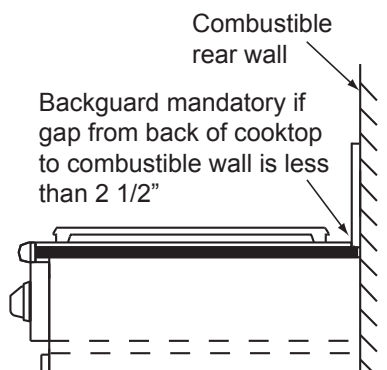

FIGURE 2
- Installation of a non-combustible material\* (up to the hood) or a backsplash is always recommended, and mandatory if the distance to the back wall from the cooktop is less than 2 1/2" (Figure 2). When installing a backguard, use only Dacor model numbers AEB3609, AEB3612 (EG366), AEB4809 or AEB4812 (EG486).